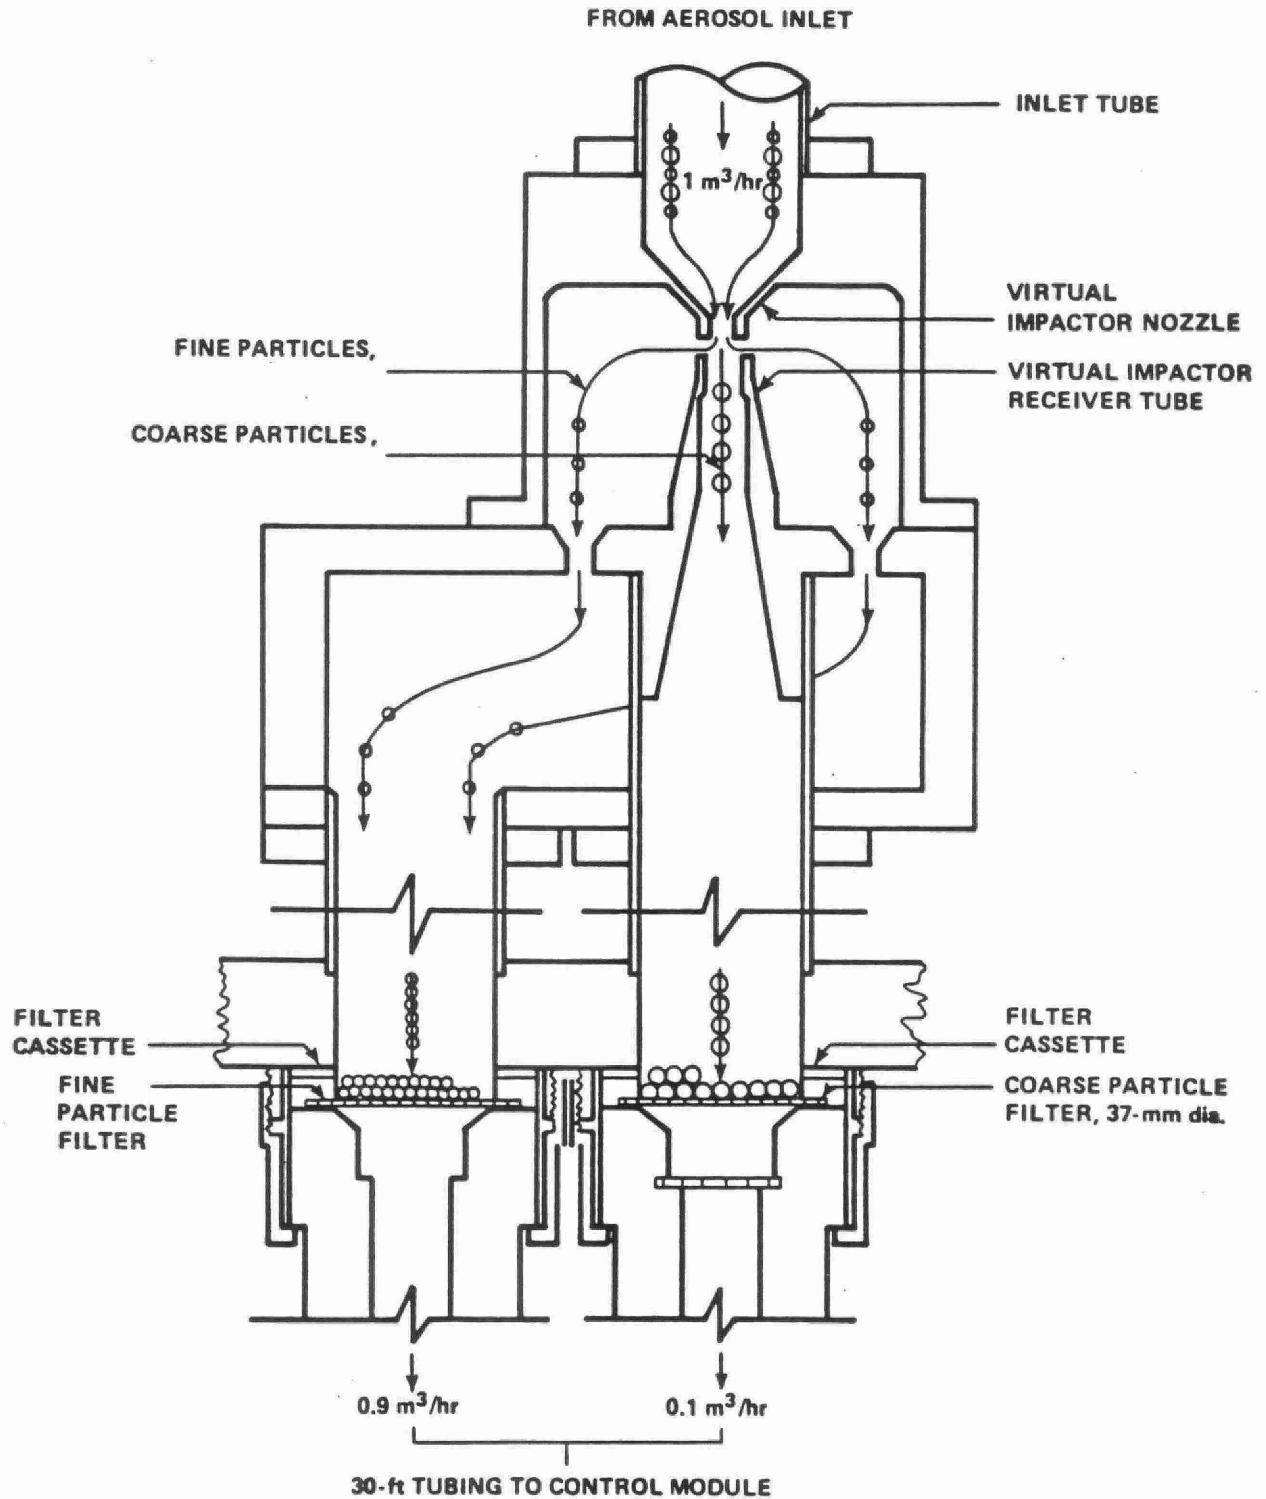

Figure 2.1. The Virtual Impactor: Principle of Operation
3.    a. For Model 244: Unscrew the knurled filter holder nuts by hand. Install the filter cassettes containing the preweighed 37-mm diameter Teflon filters in the sampling module (white ring-fine filter, yellow ring-coarse filter). Put both filter cassettes on the filter screens. The lower half of the cassette goes over the filter screen. The lower half is also the side having the shortest distance (approximately 1/16 in.) to the filter surface. Screw on both knurled filter holder nuts tightly by hand. The coarse-particle filter holder is the one with the 1/4 in. O.D. tubing and the fine-particle filter holder is the one with the 3/8 in. O.D. tubing. As shown in Figure 2.1, the filters can also be distinguished by the fact that the coarse-particle filter is on the